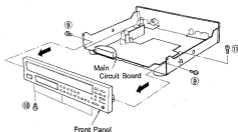

Fig. 8
- a. Remove 5 screws , (⑨ , ⑩) and also 1 screw (⑪) as shown in Fig. 8.
b. Take off the Front Panel Unit slowly as shown in Fig. 8.